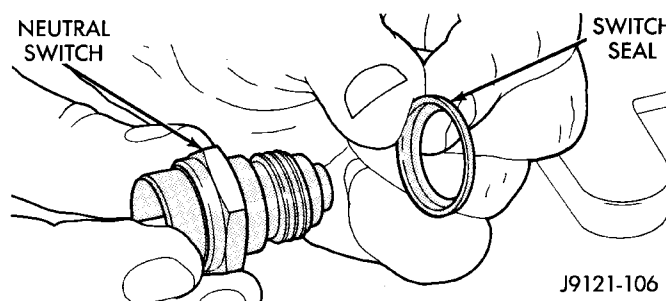

Fig. 128 Park/Neutral Position Switch Seal Position
(33) Install new filter on valve body. Tighten filter screws to 4 N·m (35 in. lbs.).
(34) Adjust front and rear bands.
(35) Install seal on park/neutral position switch (Fig. 128). Then install and tighten switch to 34 N·m (25 ft. lbs.).